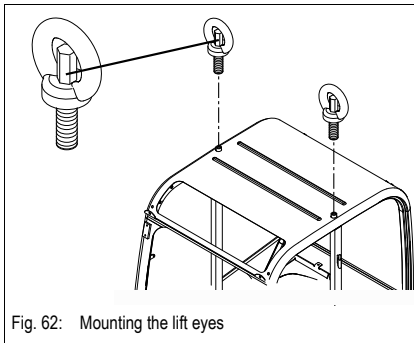

Fig. 62: Mounting the lift eyes
- Mount and tighten the lift eyes on the cab (as shown in Fig. 62)